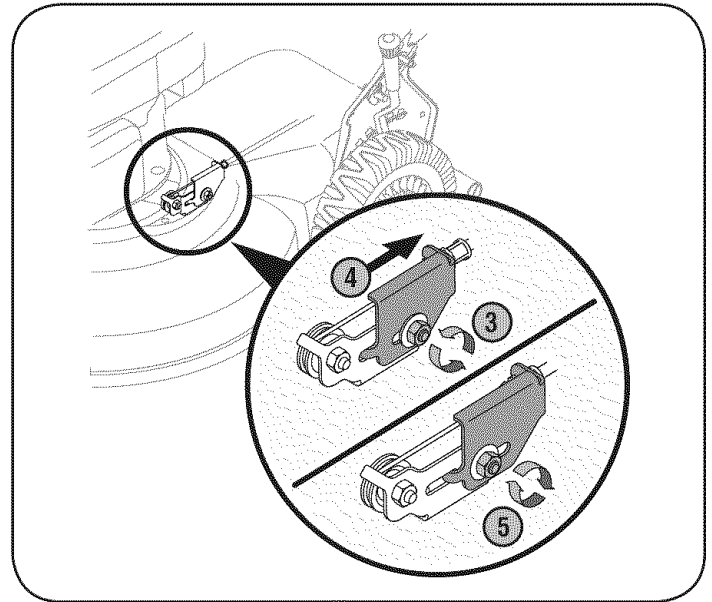

Figure 18
Periodic adjustment of the six speed shift cable may be necessary due to normal wear on the cable. Adjustment is needed if all six speeds do not work. The adjustable cable bracket is located on the left side of the mower beside the engine. See Figure 18.
3. Loosen hex nut which secures the adjustable cable bracket. See Figure 18.